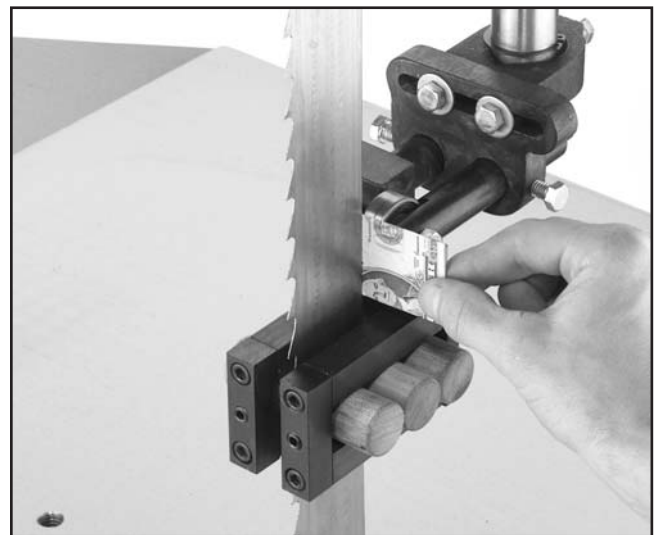

Figure 11. Folded dollar between support bearing and blade.
3. Slip your folded dollar between the back of the blade and the support bearing as shown in **Figure 11**. Lightly pinch the folded dollar with the support bearing and secure the support bearing shaft in place.